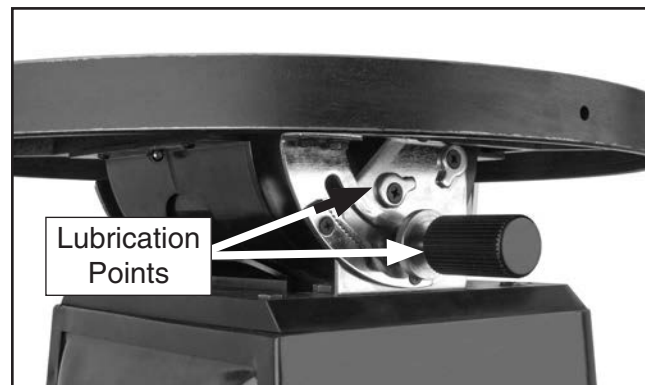

Figure 24. Lubrication points.
3. Apply a fresh light layer of multipurpose grease to areas indicated in **Figure 24–25** and to corresponding areas on other side of table tilt assembly. Tilt table several times to disperse grease.